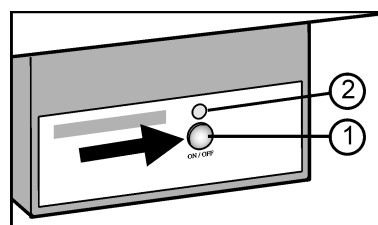

Fig. 15
- ▶ Press On/Off button *Fig. 15 (1)* so that the LED *Fig. 15 (2)* lights up.